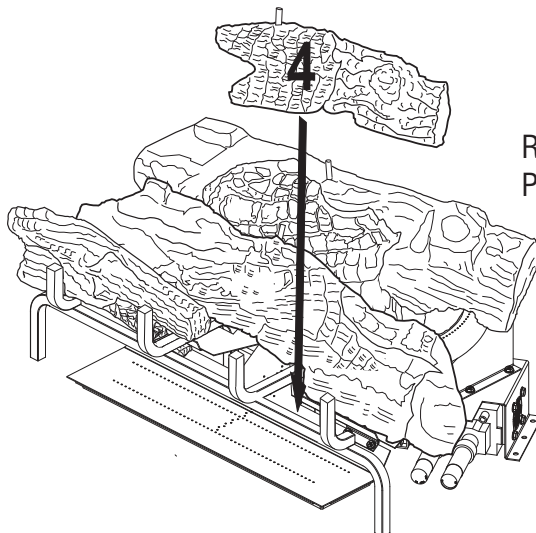

Figure 40 - Installing Log # 4
4. Place the front right log (#4) onto the base assembly between the middle log (#2) and the grate. The back of the front right log (#4) will rest against the front of the middle log (#2). The notch in the end of the front right log (#4) will fit around the grate bar. See **Figure 40, Page 22**.